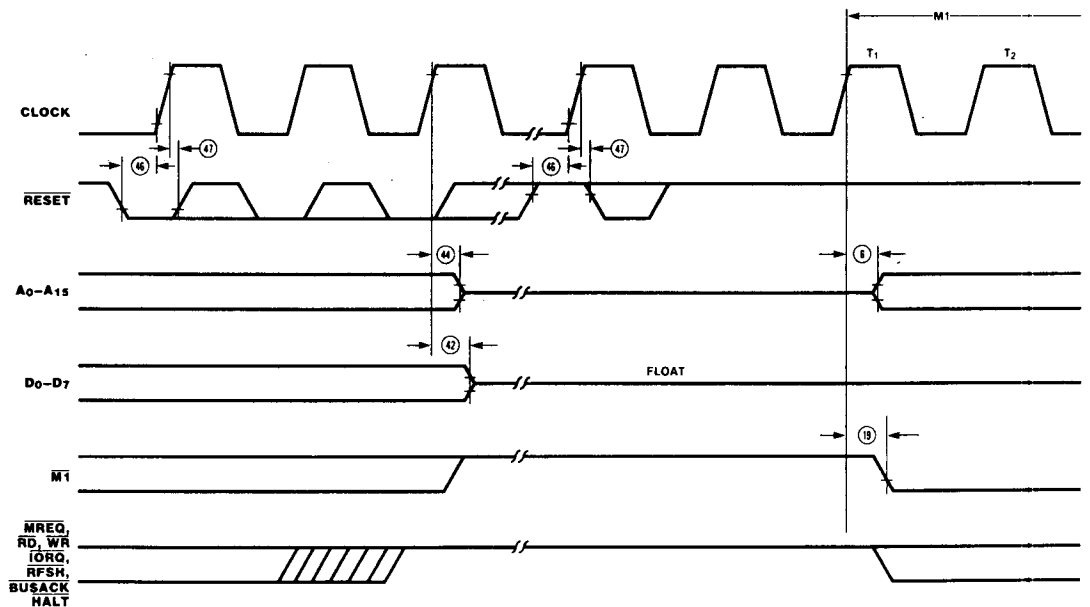

Figure 12. Reset Cycle
**Reset Cycle.**  $\overline{\text{RESET}}$  must be active for at least three clock cycles for the CPU to properly accept it. As long as  $\overline{\text{RESET}}$  remains active, the address and data buses float, and the control outputs are inactive. Once  $\overline{\text{RESET}}$  goes inactive, two internal T cycles are consumed before the CPU resumes normal processing operation.  $\overline{\text{RESET}}$  clears the PC register, so the first opcode fetch will be to location 0000H (Figure 12).